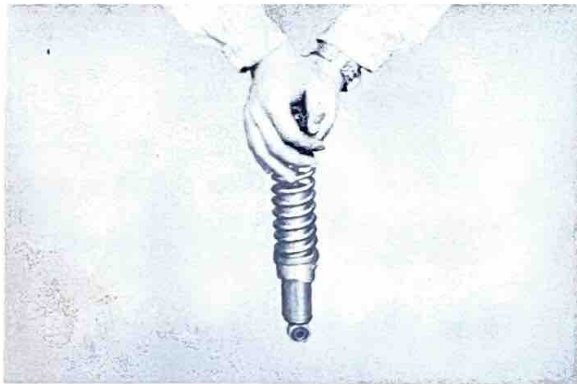

Fig. 5-6-2
2) Compress the shocks by applying weight as shown in Fig. 5-6-2, and release it.